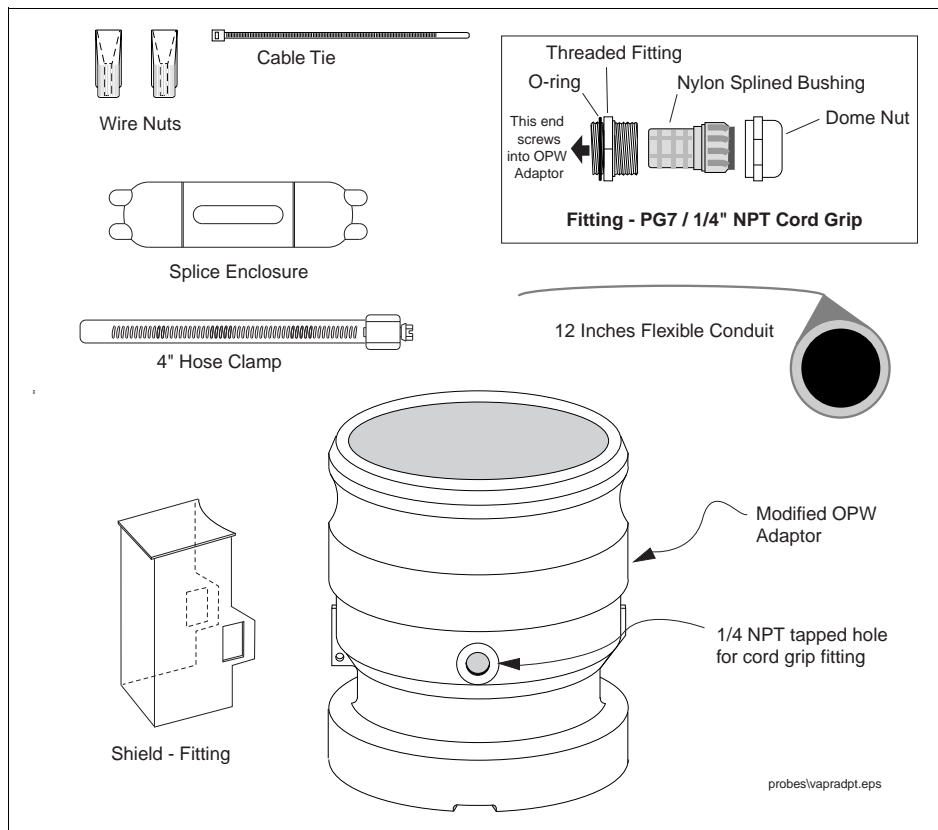

Figure 4. Mag Probe Vapor Extractor w/Coupling Adapter Installation Kit
This kit contains parts needed to install a Mag Probe into a Vapor Extractor Riser that has a Coupling Adapter (parts listed in Table 2 and shown in Figure 4):
10. Slip the PG7 cord grip fitting (o-ring end first) over the cable and screw it into the tapped hole in the Coupling Adapter (ref Figure 4 on page 7 for the correct PG7 cord grip assembly). Tighten snugly - **Be careful not to overtighten.** Slide the domed nut of the PG7 fitting down the cable and tighten securely onto the PG7 fitting so that the cable stays firmly in place. **Again, be careful not to overtighten.**